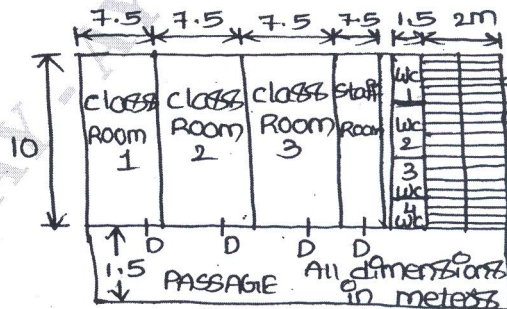

Fig.Q3(b)
b. Fig.Q3(b) shows the plan of ground floor of school building school building consists at ground floor, first floor and second floor having same plan that if ground floor. Draw single line diagram for ground floor and calculate material required for three floors. (14 Marks)